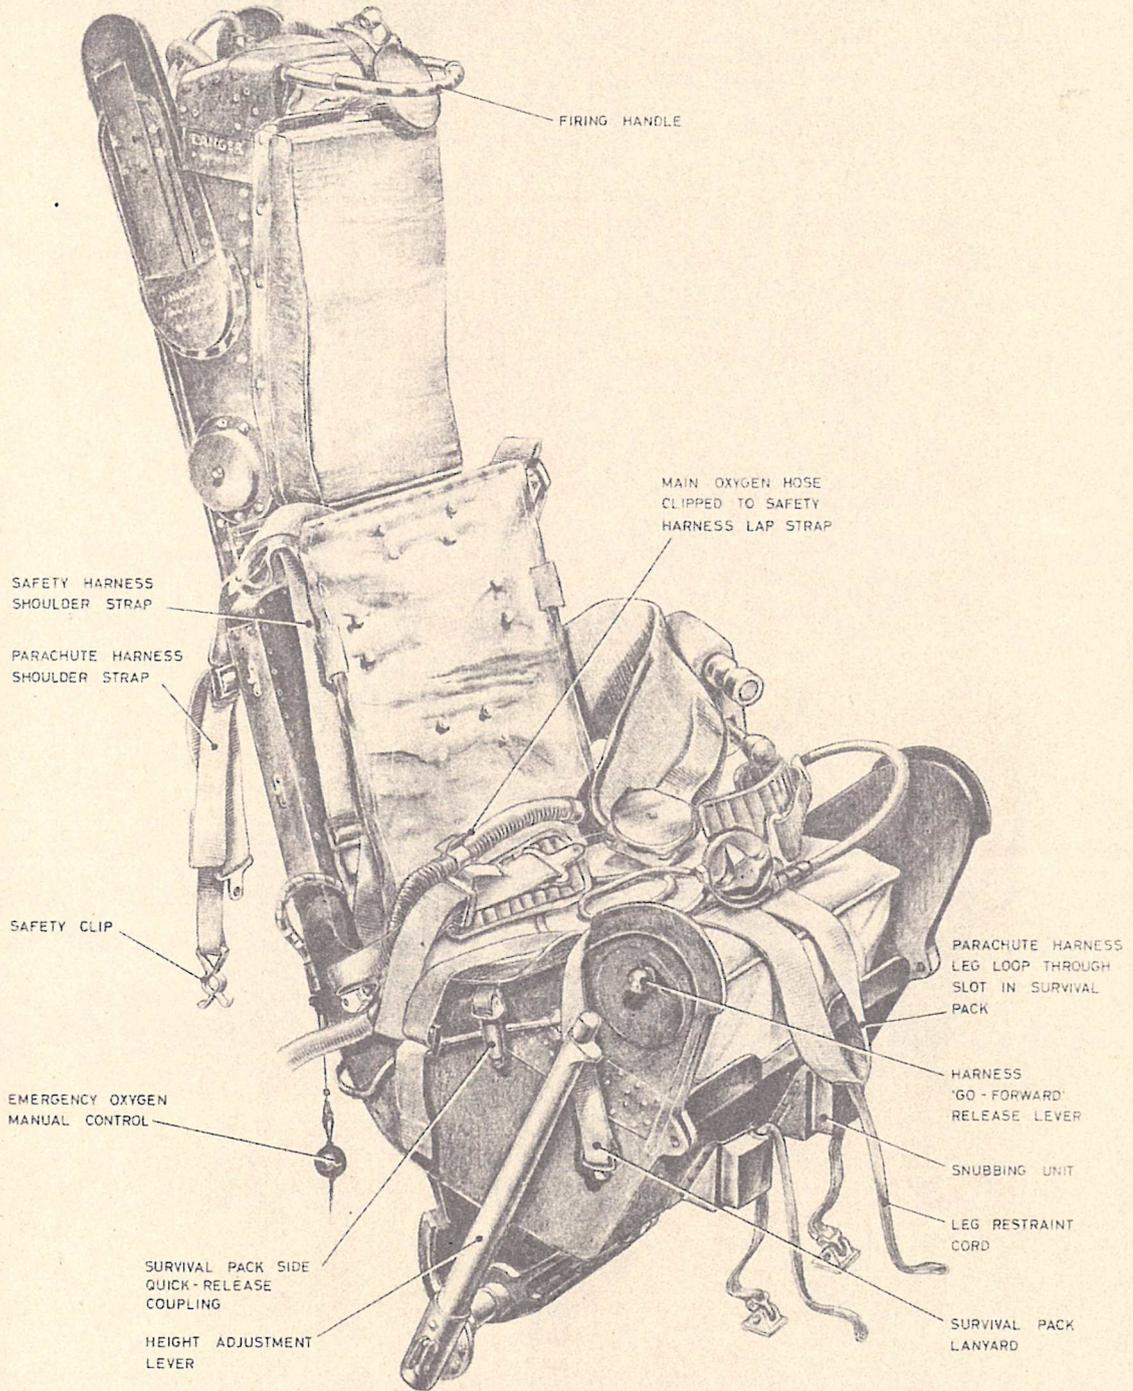
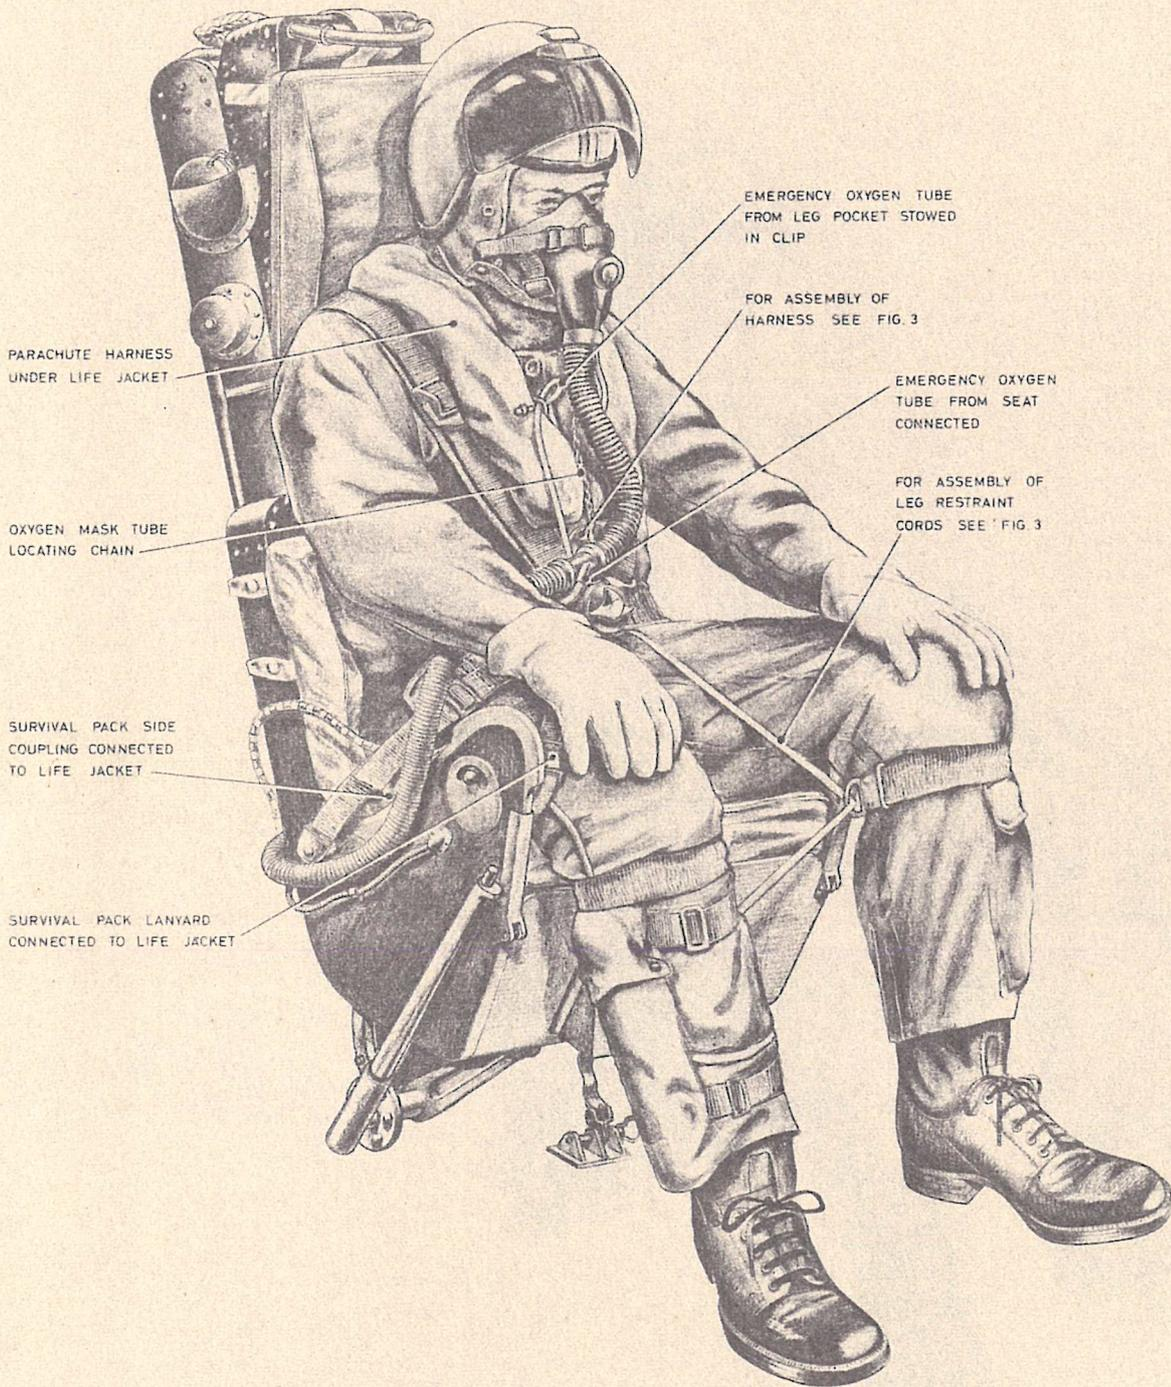

Fig. 1. The seat equipped (1)
Fig. 6. The seat occupied (Bomb Aimer)
20. The following procedure is to be used when equipping the seat; refer to fig. 1 and 2 for detail as necessary:-
- (16) Connect the main and emergency oxygen supply to the oxygen mask tube and the locating chain to the life jacket. Any excess of emergency oxygen tube is to be coiled up and tucked between the seat thigh guard and the side of the personal survival pack (loose loops of cable or hose constitute a hazard on ejection). The bomb aimer's additional emergency oxygen tube from the leg pocket is attached to the clip provided - see fig. 6.
- (17) Connect the Mic/Tel lead.
- (18) Check that the cap on the static line disconnect and override control is in place. If the cap has been removed, try to refit it; if it cannot be refitted, the parachute assembly will not operate automatically and is to be exchanged for a serviceable item.
- (19) Adjust the height of the seat. Ideally, the head is to be located in the centre of the headrest cushion.
- (20) Reach upwards and check that the firing handle is within easy reach; DO NOT PULL.
- (21) Ensure that the chin straps of both
Insert this leaflet in A.P.1182, Vol.1, Book 1, Sect.9, Chap.9, to face fig.6.
1. The attitude of the seat pan cushion in relation to the seat shown in fig.6 is incorrect; the correct attitude is shown in A.P.4288B, Vol.1, Sect.1, Chap.1, fig.1, and this arrangement is to be adopted at the earliest opportunity.